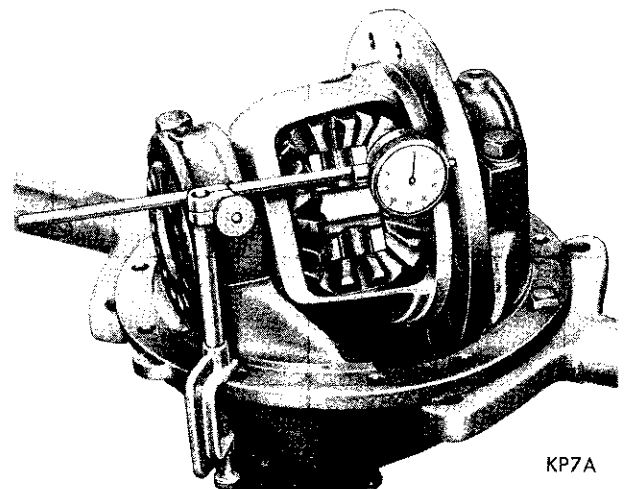

Fig. 20—Checking Drive Gear Mounting Flange Face Runout
(2) Remove drive gear bolts. **BOLTS ARE LEFT HAND THREAD.** With a non-metallic hammer, tap drive gear loose from differential case pilot and remove.
(3) If drive gear runout exceeded .005 inch in step 2 (under "Carrier Disassembly"), recheck the case as follows: Install differential case and respective bearing cups in carrier.
(4) Install bearing caps, cap bolts and bearing adjusters. Tighten bearing cap bolts down lightly and screw in both adjusters with spanner wrench Tool C-406A.
(5) Tighten cap bolts and adjusters sufficiently to prevent any side play in bearings.
(6) Attach a dial indicator Tool C-3339 to carrier flange so pointer of indicator squarely contacts drive gear surface of differential case flange between outer edge flange and drive gear bolt holes (Fig. 20).
(7) Rotate differential case several complete revolutions while noting total indicator reading. This reading must not exceed .003 inch runout. If runout is in excess of .003 inch, differential case must be replaced. **In a case where the runout does not exceed .003 inch it is often possible to reduce the runout by positioning the drive gear 180° from point of maximum runout when reassembling drive gear on differential case.**
(8) With a flat nose drift and hammer, remove differential pinion shaft lock pin from back side of drive gear flange. (The hole is reamed only part way through, making it necessary to remove lock pin from one direction.)
(9) With a brass drift and hammer, remove differential pinion shaft and axle drive shaft thrust block.
(10) Rotate differential side gears until each differential pinion appears at large opening of case.